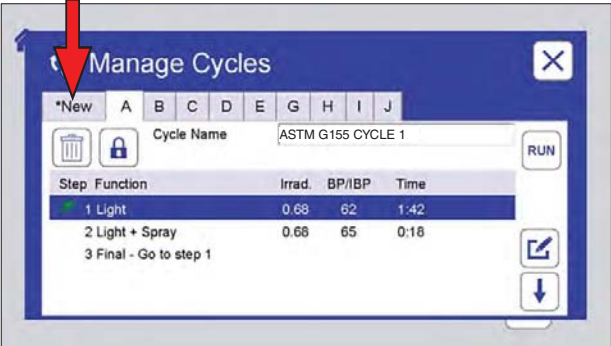
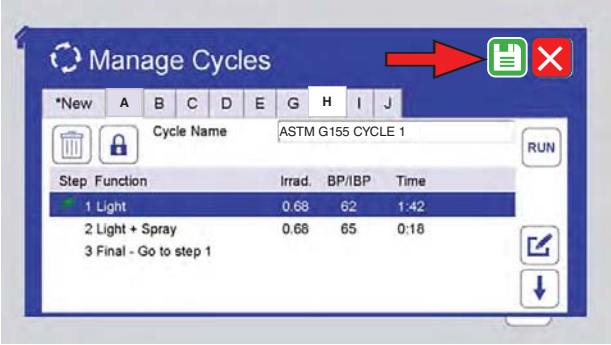

Figure 10.6.7a: To create a new cycle, touch the *New tab.
Figure 10.6.7e: Follow Figure 10.6.4a through Figure 10.6.4j to add steps and save the new cycle.
- Create a new cycle (Figure 10.6.7a through Figure 10.6.7e).